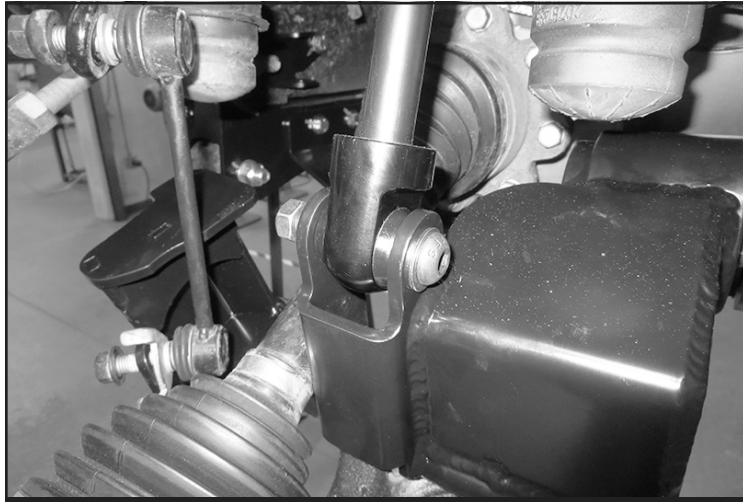

FIGURE 50 - STEP 42
42. Install the new front shocks with the supplied shock hardware and 1/2" x 2-3/4" Buttonhead bolt, nut and washers. **NOTE: Install the buttonhead bolt so the head is facing towards the rear of the vehicle.** If installing Dirt Logic shocks refer to the instructions provided with the shocks. **SEE FIGURE 50** Repeat steps on the opposite side.